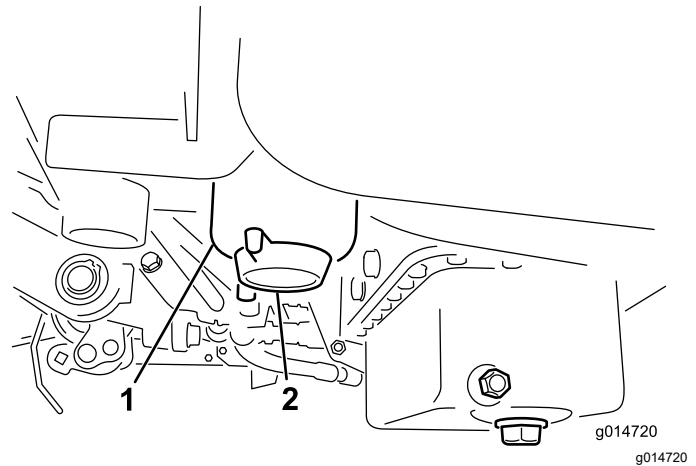

Figure 43
3. Open the drain plug on the fuel filter approximately one turn and drain any accumulated water (Figure 43).